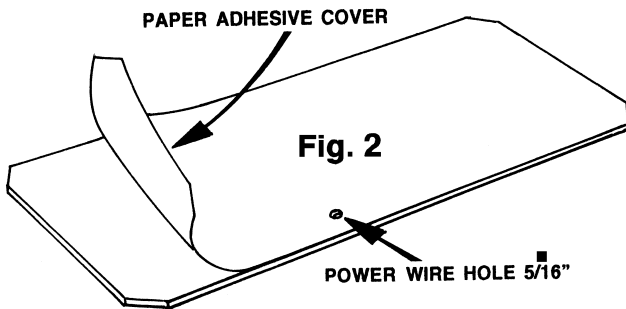

Fig. 2
6. Remove the cut circles in the rubber pad. (Fig. 2)
7. Remove the paper from the rubber pad's surface. Push the power wires through the hole in the pad. Fig. 2. **IMPORTANT:** The adhesive side of the rubber pad is placed against the base of the light. When pad is in position on the base, press firmly on pad for adhesive to secure the pad in place. **NOTE:** make sure the pads four (4) mounting holes line up with the base of the warning light.